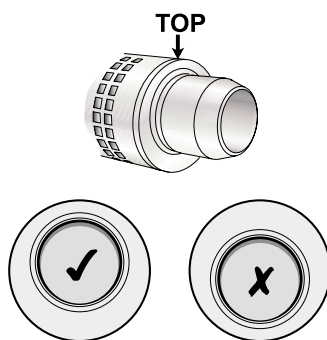

Fig. 6
15. From outside building – rotate terminal section to position ‘TOP’ label uppermost (Fig. 6).